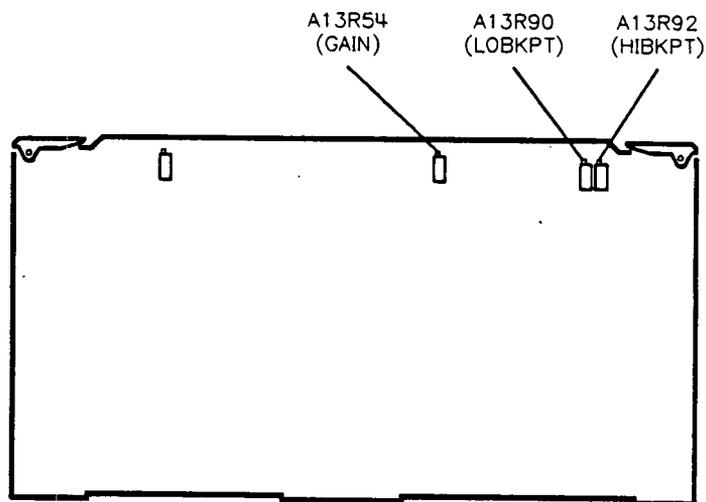

Figure 3-12. YO Gain and Linearity Adjustment Locations
4. Adjust A13R54 (see Figure 3-12) to center the “needle” on the display.
6. Adjust A13R90 (see Figure 3-12) to center the “needle” on the display.
8. Adjust A13R92 (see Figure 3-12) to center the “needle” on the display.